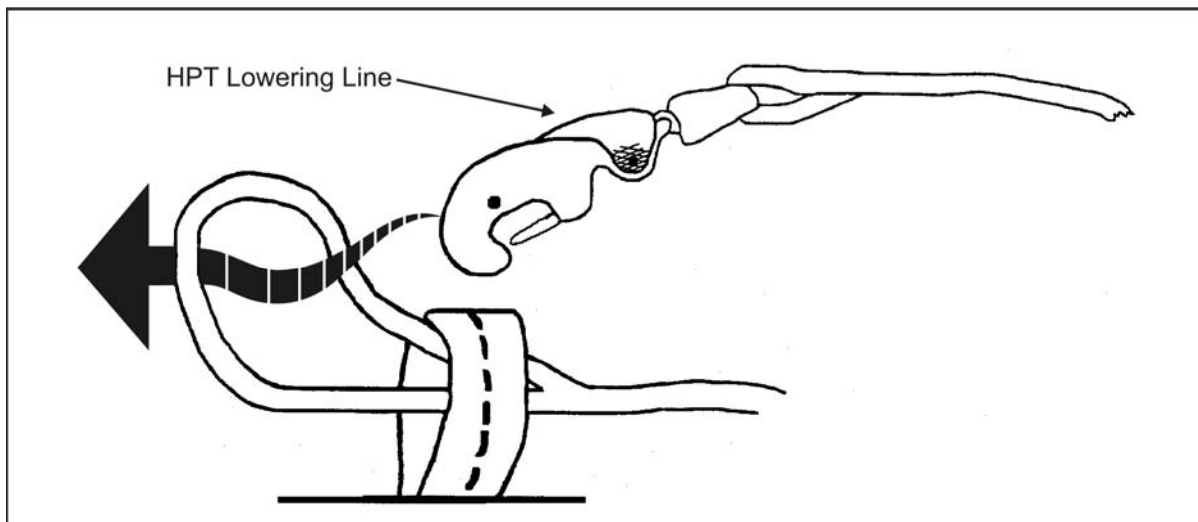

Figure 5-27. Securing the 8-Footer Lowering Line to the Cargo Carrier
- Inserts the quick-ejector snap through the sewn loop of the lowering line (Figure 5-27, page 5-24).